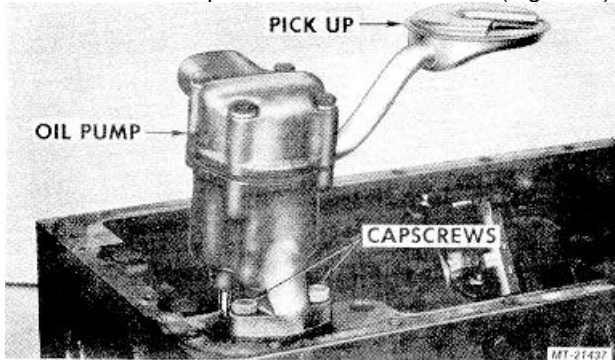

Fig. 163 Oil Pump in Cylinder Block
- a. Position oil pump in cylinder block and secure with cap screws and lockwashers (Fig. 163).